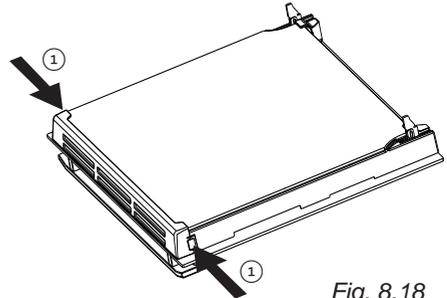

Fig. 8.18
- Touch the glass retainer tabs in on both sides of the door and remove the glass retainer (fig. 8.18, 8.19).